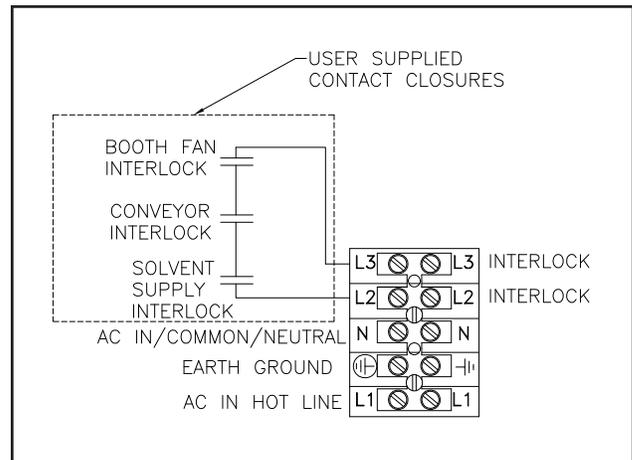

Figure 9a: TB1 Interlock Wiring
4. Using a shielded cable for the interlock wiring (supplied by user), route through the interlock connector on the rear of the power supply and terminate TB1-L2 and TB1-L3 as shown in Figure 9a. The shielded cable must have a minimum rating of 300V and 105°C and its conductors should be 0.8mm² (18 AWG) minimum. Secure the cable to the interlock connector as described in "I/O Connections" in the "Installation" section of this manual so that the shield of the cable is connected to the chassis of the enclosure.